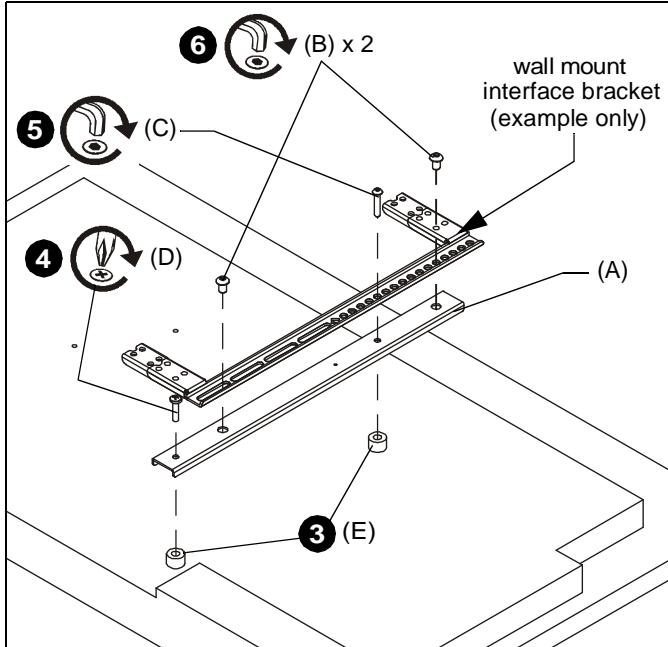

Figure 1
3. Position two spacers (E) over two holes on back of display. (See Figure 1)
4. Install one M6 x 25mm Phillips pan machine screw (D) through channel bracket (A), spacer (E) and into back of display. (See Figure 1)
5. Install one M6 x 30mm button head cap screw (C) through wall mount interface bracket, channel bracket (A), spacer (E) and into back of display. (See Figure 1)
6. Use two 5/16-18 x 1/2" button head cap screws (B) to secure wall mount interface bracket to channel bracket (A). (See Figure 1)